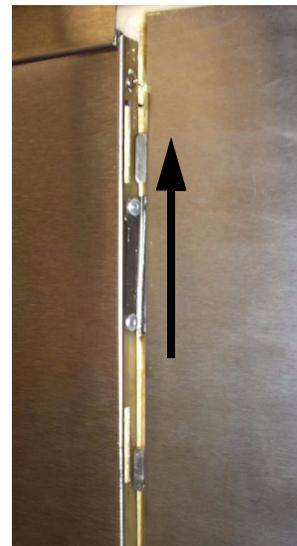

Figure 1.
2. Push up the bottom of the merchandiser to disengage the retaining hooks from the cabinet on both sides, See Figure 1.